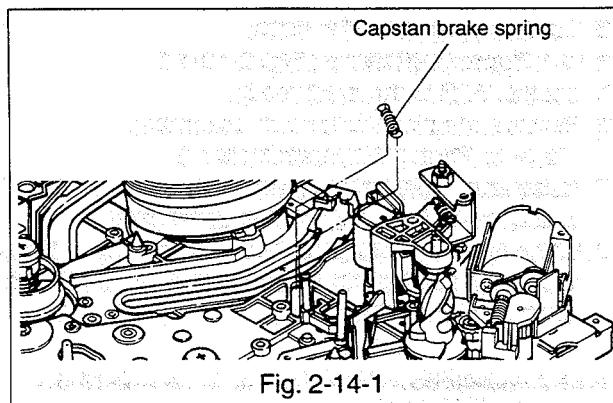

Fig. 2-14-1
### 2-14-1 Removal(Refer to Fig. 2-14-1, 2-14-2.)
- A. Detach the capstan brake spring from the capstan brake and the loading gear arm.(Refer to Fig. 2-14-1.)
- D. Unsolder the terminals of the FE head.(Refer to Fig. 2-14-1.)